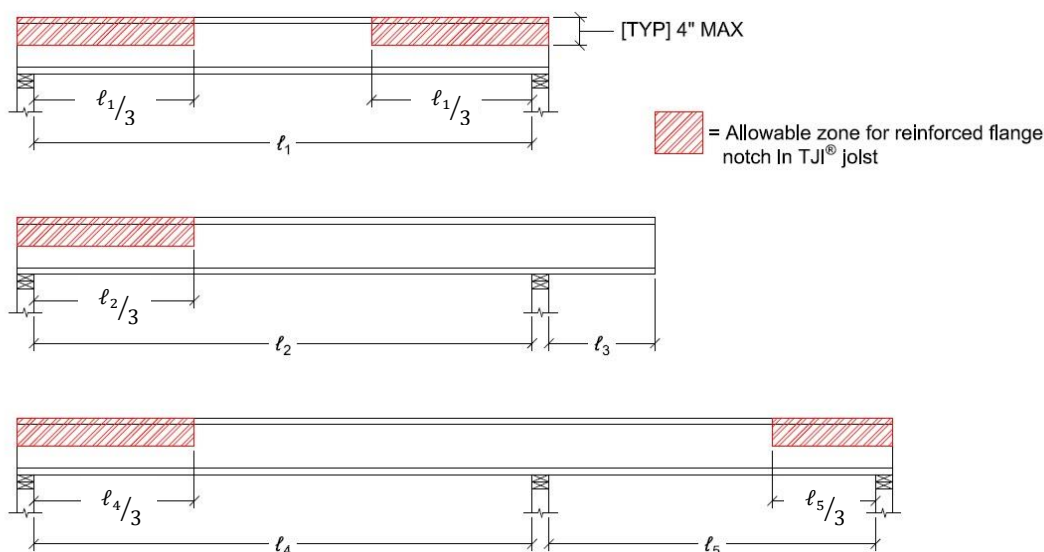

Figure 1: Allowable zones for reinforced flange notch in simple-span, span+cantilever, and continuous-span.
- Reinforced flange notch permitted in only the allowable zones of top (compression) flange (see Figure 1).
- One (1) inadvertent flange notch per TJI® joist (single-ply only).